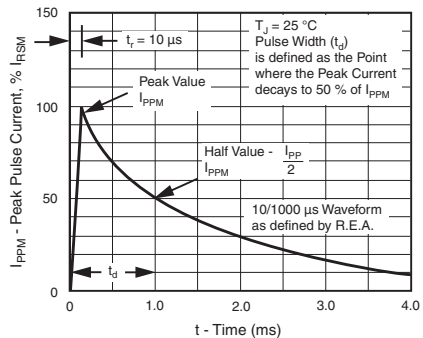
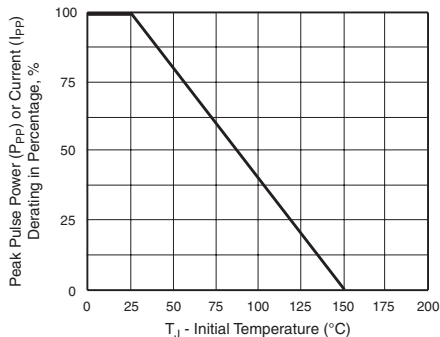

Figure 3. Pulse Waveform
Figure 2. Pulse Power or Current vs. Initial Junction Temperature
- (1) Pulse test:  $t_p \leq 50\text{ ms}$
- (2) Surge current waveform per Fig. 3 and derate per Fig. 2
- (3) For bi-directional types with  $V_{WM}$  of 10 V and less, the  $I_D$  limit is doubled
- (4) All terms and symbols are consistent with ANSI/IEEE C62.35
- (5)  $V_F = 3\text{ V}$  at  $I_F = 50\text{ A}$  (uni-directional only)